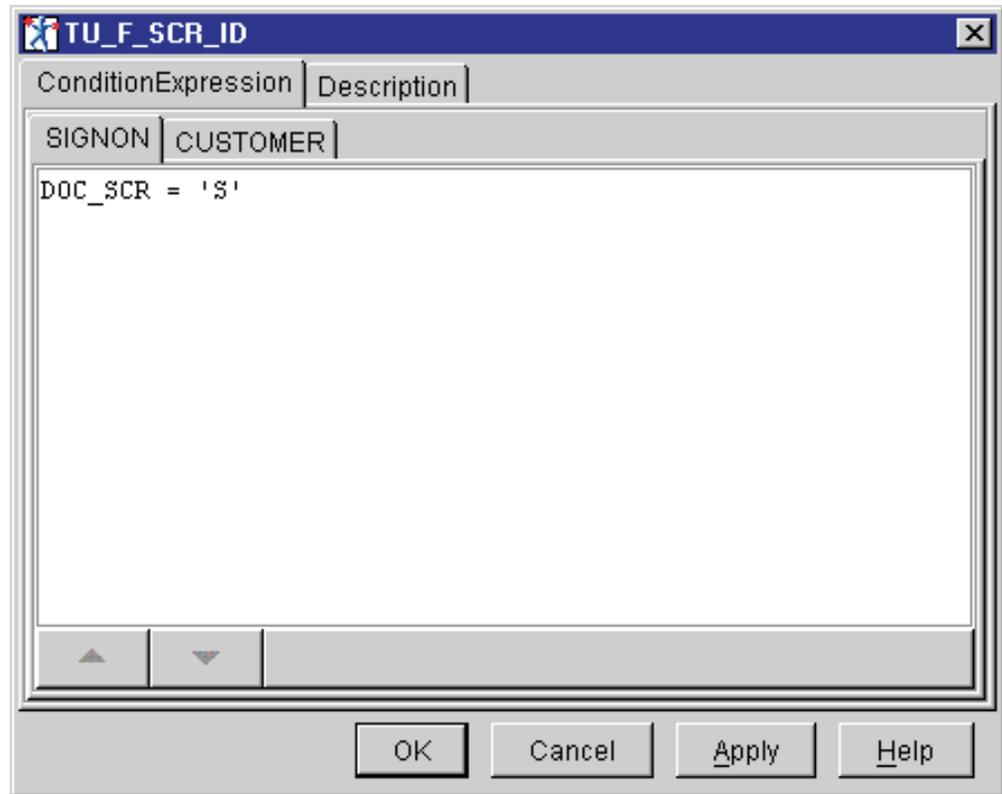

Figure 157. Code for the SIGNON Terminal
- iv) You should add the code shown in Figure 157 on page 201 for the SIGNON terminal test condition. The letter 'S' for the DOC\_SCR field is based on the screen indicator codes that are defined for the decision message (TU\_F\_DEC). The DOC\_SCR field is returned from the parser subflow indicating the current screen that the user is on.